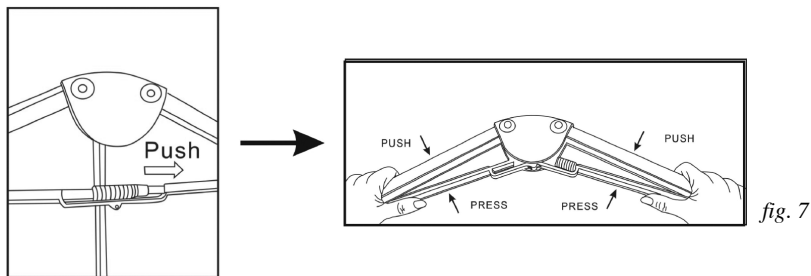

fig. 7
8. Fold the folding rack by pushing the fixed pipe (F) to the right, and then hold the arms and push the two poles upwards with your thumbs until the folding rack is folded. See fig 7.